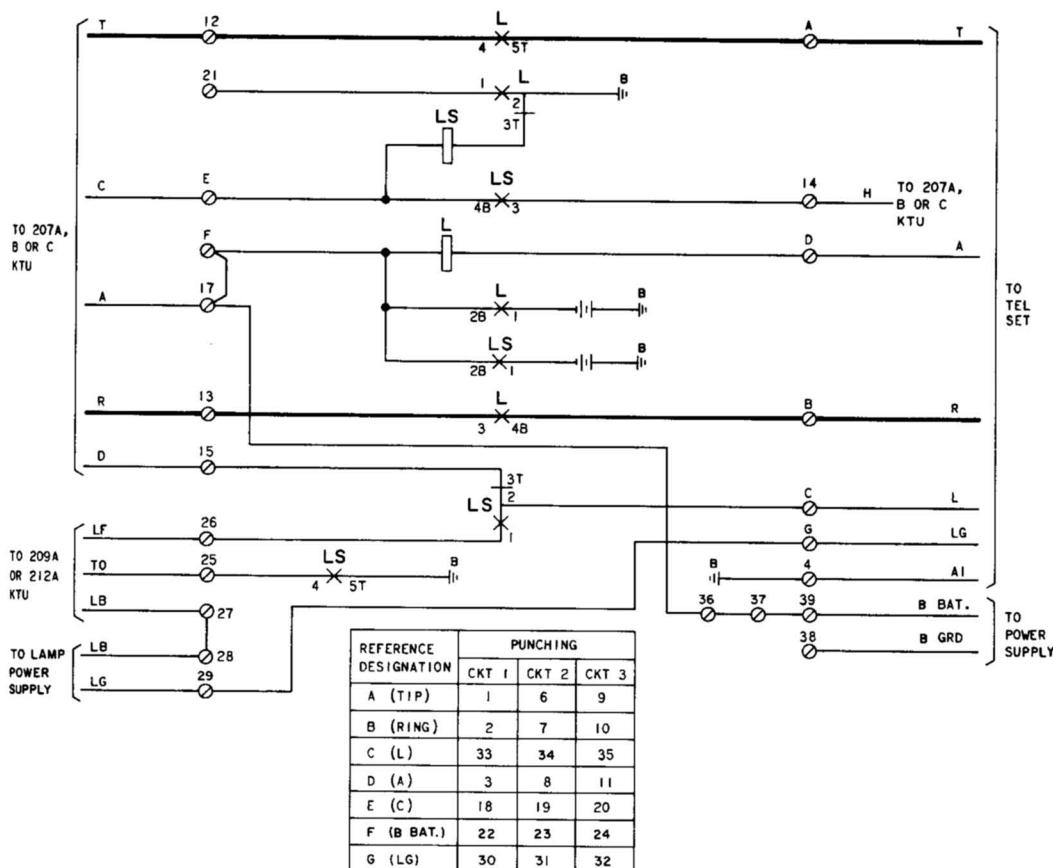

Fig. 9—Functional Schematic of 208A KTU (MD) (Signaling Unit for Flashing Line Lamps)
- 2.12** The 208A KTU (Fig. 9) is used on intercom lines to control: